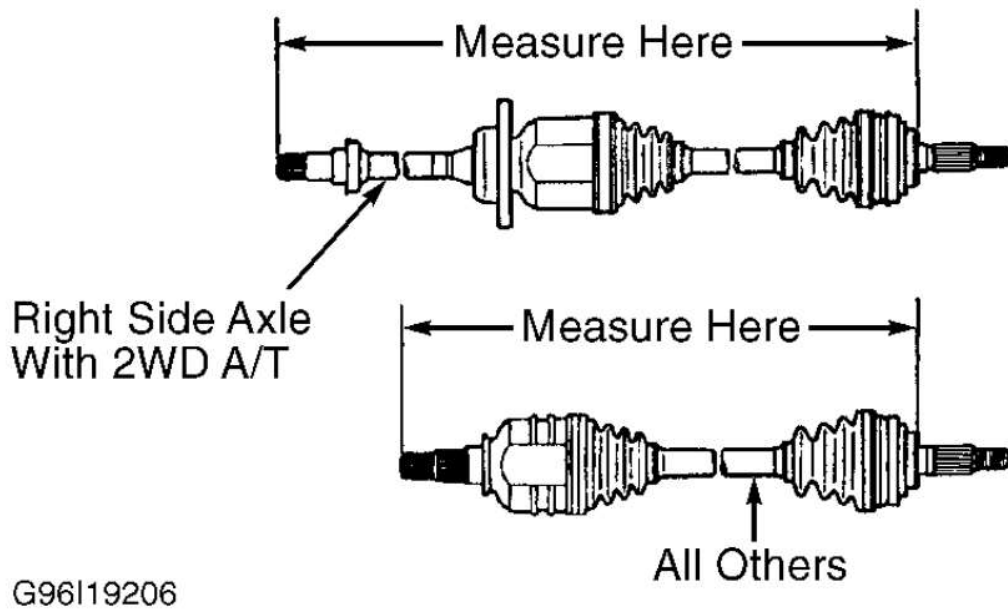

Fig. 7: Measuring Front Axle Shaft Length
12. Tighten boot clamps. Ensure boots are seated in grooves on axle shaft. Adjust axle shaft to standard axle shaft length. See **AXLE SHAFT LENGTH SPECIFICATIONS** . See **Fig. 7** .
(1) Measure axle shaft length between inner joint flange and outer joint flange. See Fig. 7 .